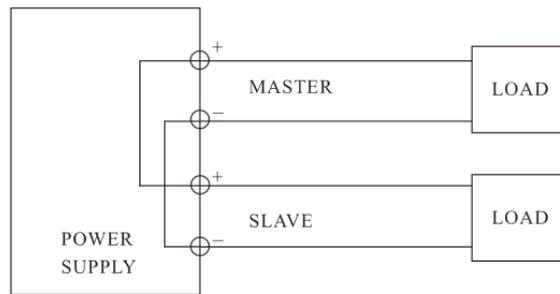

Fig.5-5 Parallel Tracking Operation
F. Connect the negative polarity of the device being powered to the black (-) terminal of the MASTER power supply. The configuration is as shown in Fig.5-5.